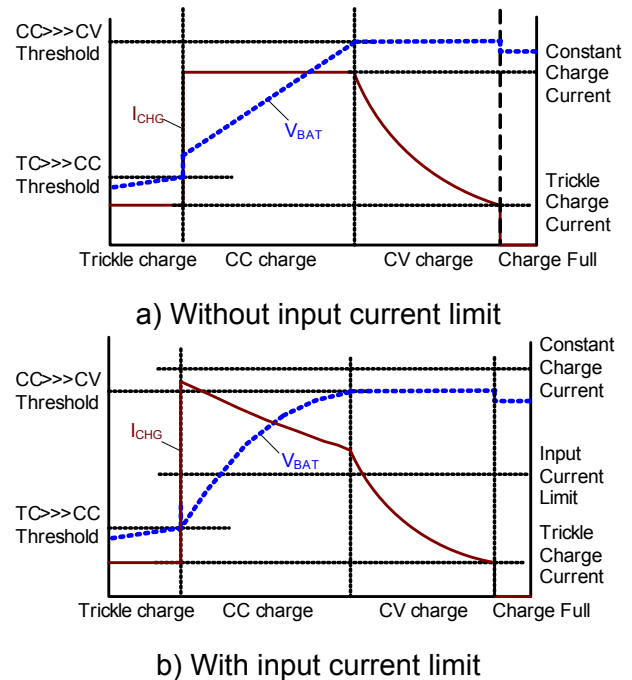

Figure 11: Typical Battery Charging Profile
In charge mode, the MP2633 has four control loops to regulate the input current, charge current, charge voltage, and device junction temperature. It charges the battery in three phases: trickle current (TC), constant current (CC), and constant voltage (CV). While charging, all four loops are active but only one determines the IC behavior. Figure 11(a) shows a typical battery charge profile. The charger stays in TC charge mode until the battery voltage reaches a TC-to-CC threshold. Otherwise the charger enters CC charge mode. When the battery voltage rises to the CV-mode threshold, the charger operates in constant voltage mode. Figure 11(b) shows a typical charge profile when the input-current-limit loop dominates during the CC charge mode, and in this case the charge current exceeds the input current, resulting in faster charging than a traditional linear solution that is well-suited for USB applications.